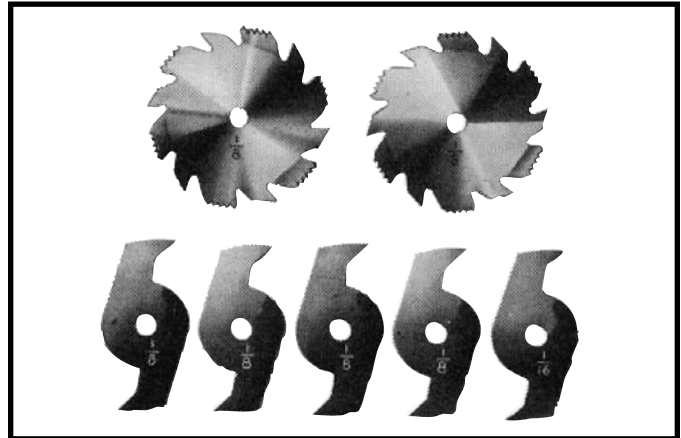
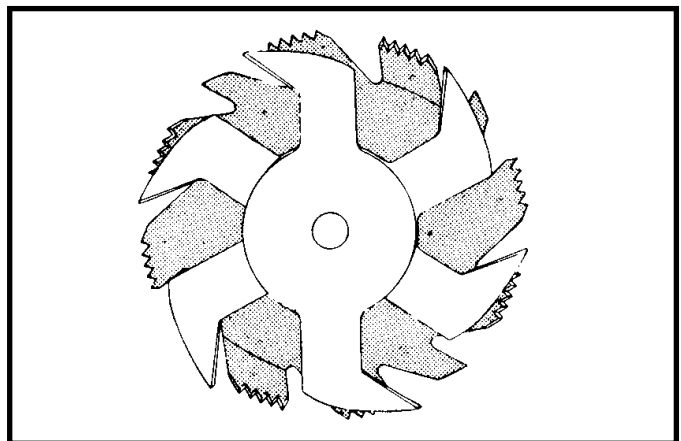
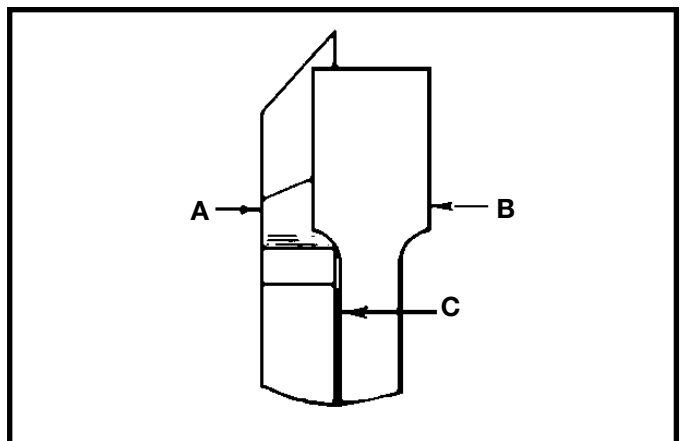

Fig. 137
Fig. 138
Fig. 139
Dadoing is cutting a rabbet or wide groove into the work. Most dado head sets are made up of two outside saws and four or five inside cutters, as shown in Fig. 137. Various combinations of saws and cutters are used to cut grooves from 1/8" to 13/16" for use in shelving, making joints, tenoning, grooving, etc. The cutters are heavily swaged and must be arranged so that this heavy portion falls in the gullets of the outside saws, as shown in Fig. 138. The saw and cutter overlap is shown in Fig. 139, (A) being the outside saw, (B) an inside cutter, and (C) a paper washer or washers which can be used as needed to control the exact width of groove. A 1/4" groove is cut by using the two outside saws. The teeth of the saws should be positioned so that the raker on one saw is beside the cutting teeth on the other saw.